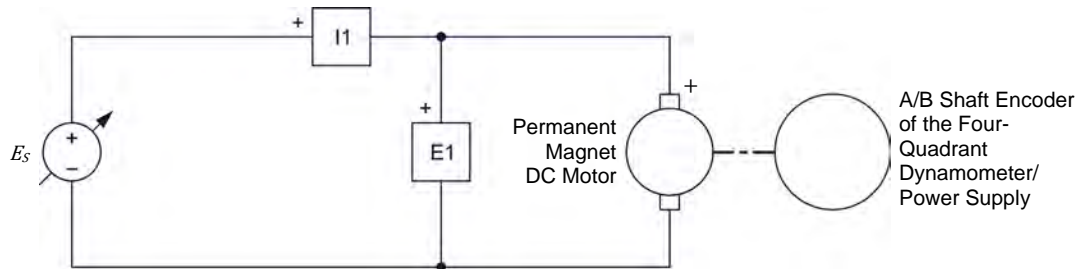

Figure 45. Setup used to plot the speed-versus-voltage characteristic of a permanent magnet dc motor operating as a motor.
6. Connect the equipment as shown in Figure 45. In this circuit, E_S is a positive dc voltage source implemented with the Four-Quadrant Dynamometer/Power Supply. $E1$ and $I1$ are voltage and current inputs of the Data Acquisition and Control Interface (DACI). The Permanent Magnet DC Motor is coupled to the Four-Quadrant Dynamometer/Power Supply with a timing belt to allow measurement of the motor rotation speed using the A/B shaft encoder in the Four-Quadrant Dynamometer/Power Supply.